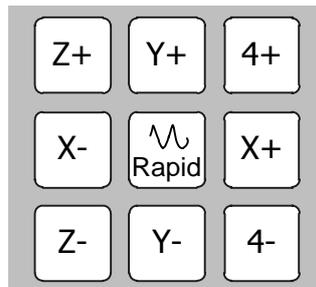

Fig. 1-7 Axis direction keys
6. Axis direction keys, used for manual control of each axis movement in jog mode or jiggle mode. See Fig. 1-7 for concrete keys. How to use [Rapid] key? In manual mode, when any axis direction key and [Rapid] key are together pressed, the axis moves at manual high speed, or called rapid jog speed; when any axis direction key is pressed alone, the axis moves at manual speed, or called jog speed.